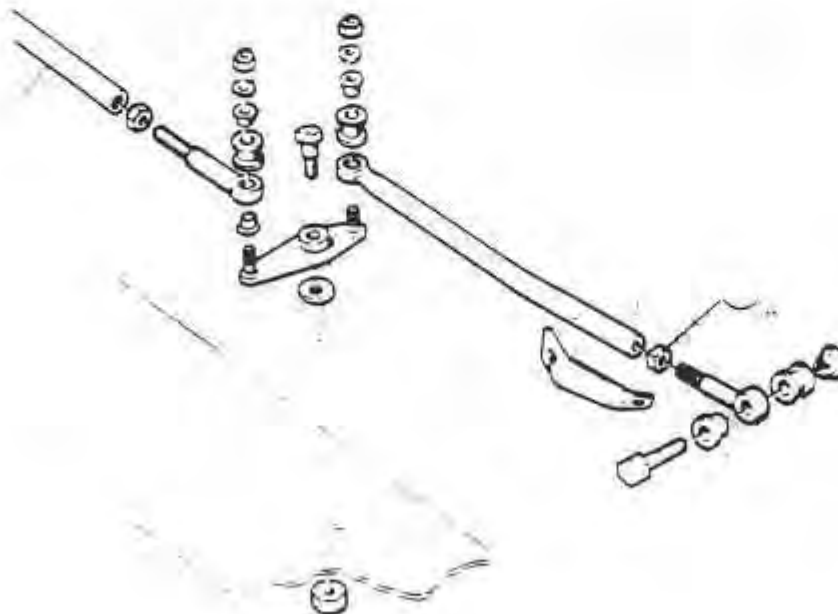

Fig. 43
8. Adjust cable. See cross gate cable adjustment procedure (*Fig. 43*)